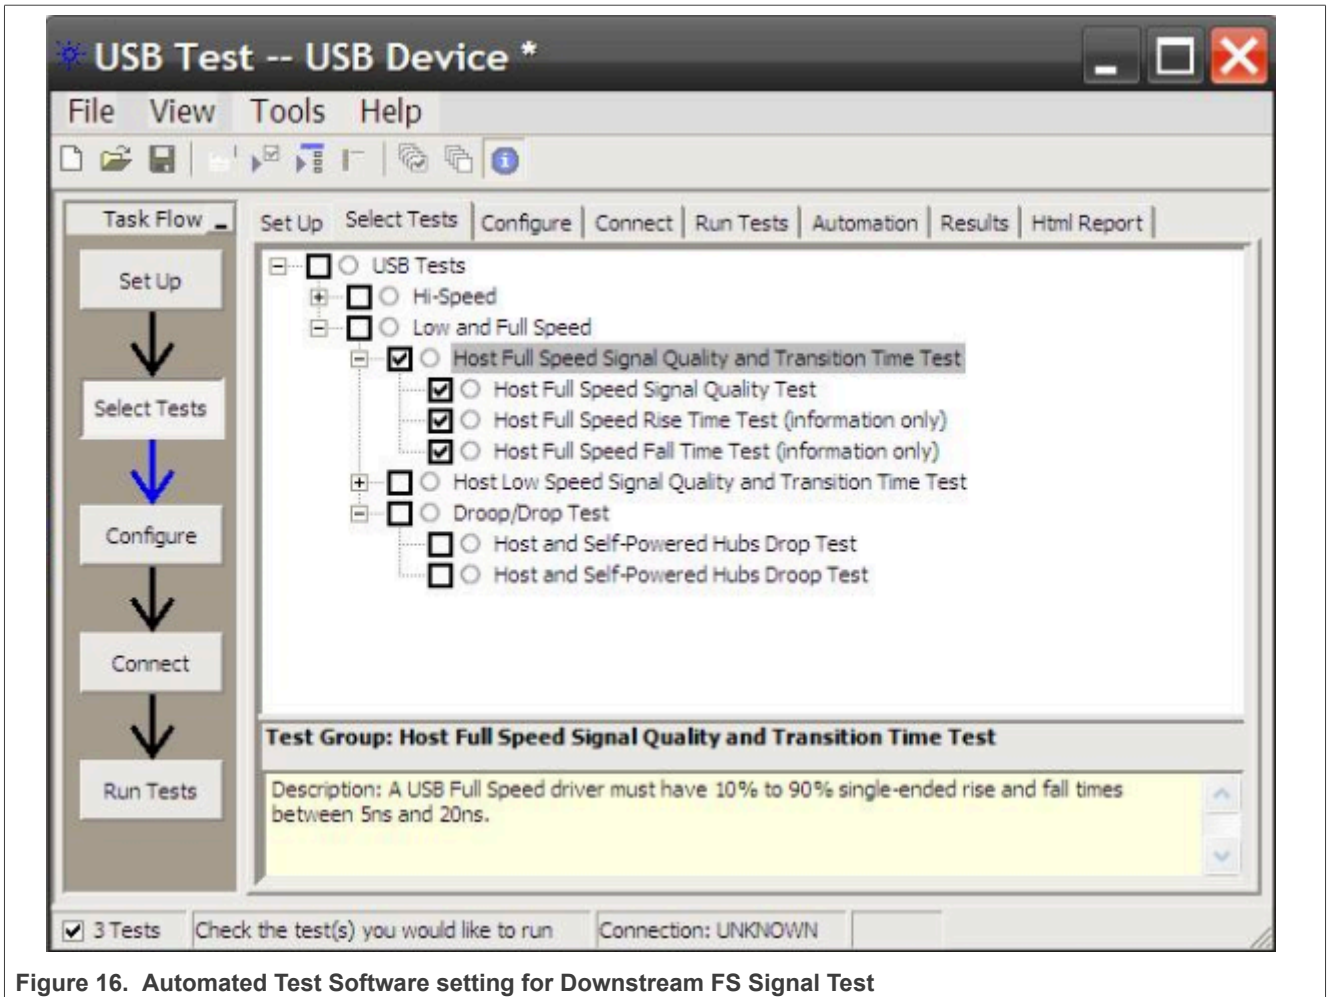

Figure 16. Automated Test Software setting for Downstream FS Signal Test
1. Select the test items in the USB Automated Test Software on Oscilloscope as shown in Figure 16, and make sure you set the Test Type configuration option to “Full-Speed Far End” before running the test.